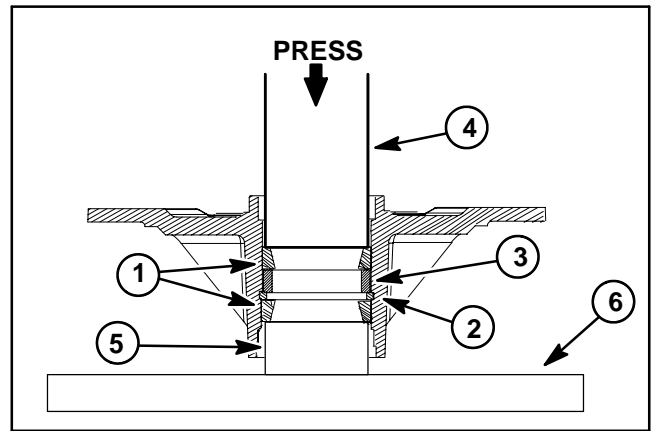

Figure 7
3. Using an arbor press, push the bearing cups into the top and bottom of the spindle housing. The top bearing cup must contact the outer bearing spacer previously installed, and the bottom bearing cup must contact the large snap ring. Make sure that the assembly is correct by supporting the first bearing cup and pressing the second cup against it (Fig 7).